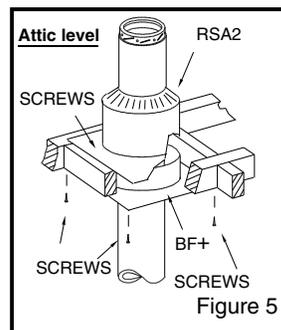

Figure 5
- 7 At the attic level, install a firestop plate (BF+), from below and an attic radiation shield (RSA2) from above (see Fig. 5).
**(U.S. ONLY)** Install the roof radiation shield in the roof joists. This shield consists of four metal plates supplied with the roof flashing. Nail one plate to each side of the joist using (2) - 2 1/2" nails.